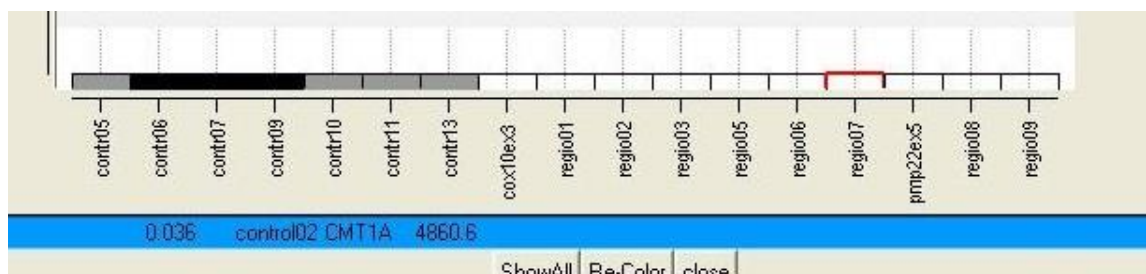

Fig. 12c: Holding the mouse over the regio7 box will highlight the control amplicons (in black) used for calculating the ratios of this target amplicon.
- Not every control amplicon is used to calculate the ratios for a particular target amplicon. The control amplicons used are shown in the DosPlot when holding the mouse over the amplicon (Fig. 12c).